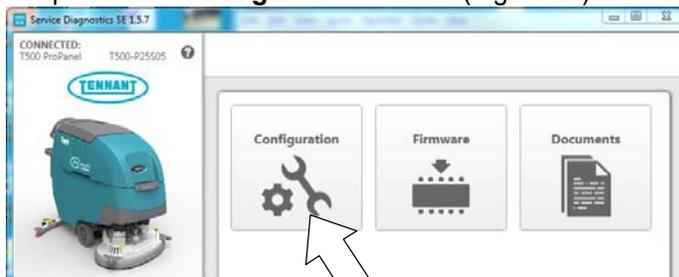

Fig. 29
4. Once connected, the home screen will appear (Figure 28). Before configuring the machine with the new installed option, first check if any firmware updates are required. The **"Firmware"** button will be highlighted in yellow if updates are required. Press button to update firmware (Figure 29).
5. To configure machine with the Spray nozzle option, press the **"Configuration"** button (Figure 29).